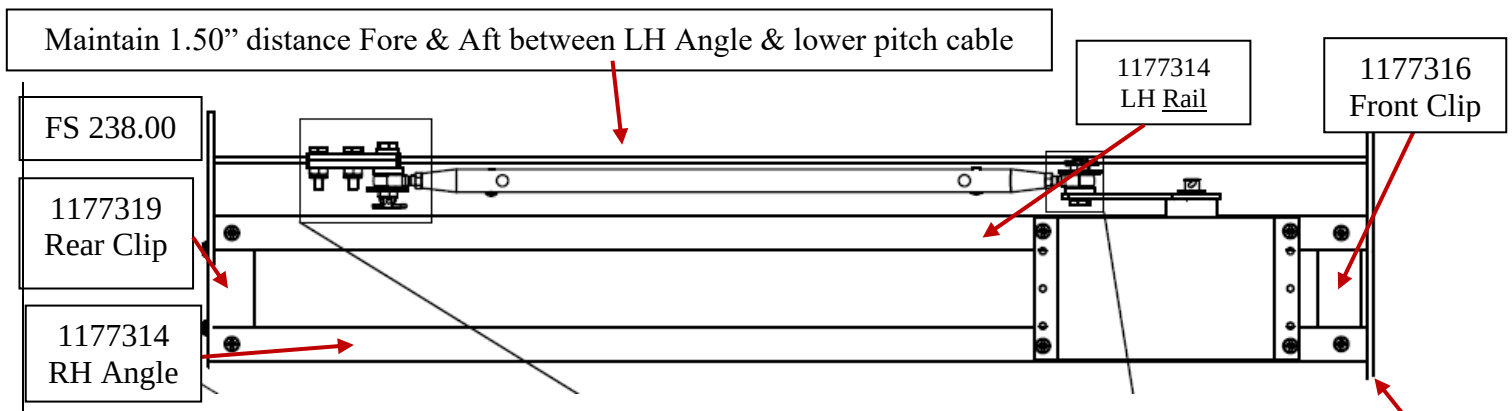

FIGURE 4-1 PITCH SERVO BRACKET ASSEMBLY
4. For easier installation, assemble the pitch servo bracket assembly prior to starting the measuring process. This will simplify bracket orientation and location. Refer to Figure 4-1.
9. The pitch servo tray is aligned so that the port edge of the tray assembly is 1.50" from the lower pitch cable. Refer to Figure 4-1 & 4-3.
13. Mark F.S. 213.00 & F.S. 238.00 with location of the left Angle at 1.50". This is your reference mark for the pitch servo assembly. Refer to Figure 4-1 & 4-3.